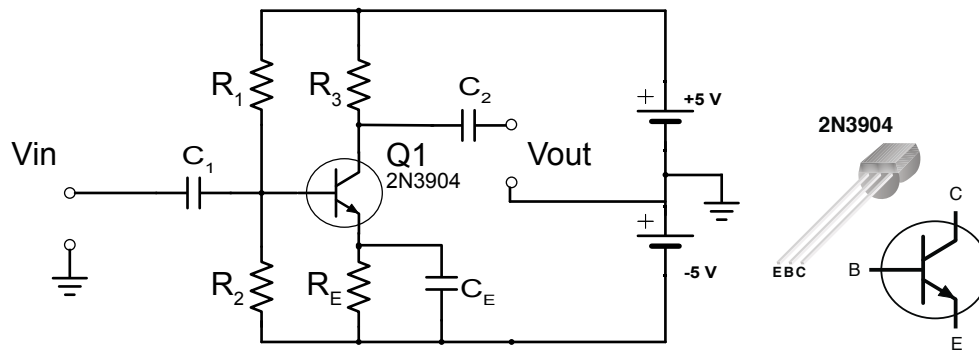

FIGURE 1 COMMON EMITTER AMPLIFIER
The circuit you will be building is shown in the schematic in Figure 1. You will want to power this circuit at 10V, though it should be safe to run it up to 25V. Since we only have the AD to power it, we will run it at 10V by using both the positive and negative power supplies.
- Carefully build the circuit of figure 1. Since it requires +10V, you need both the +5V and -5V of the AD.